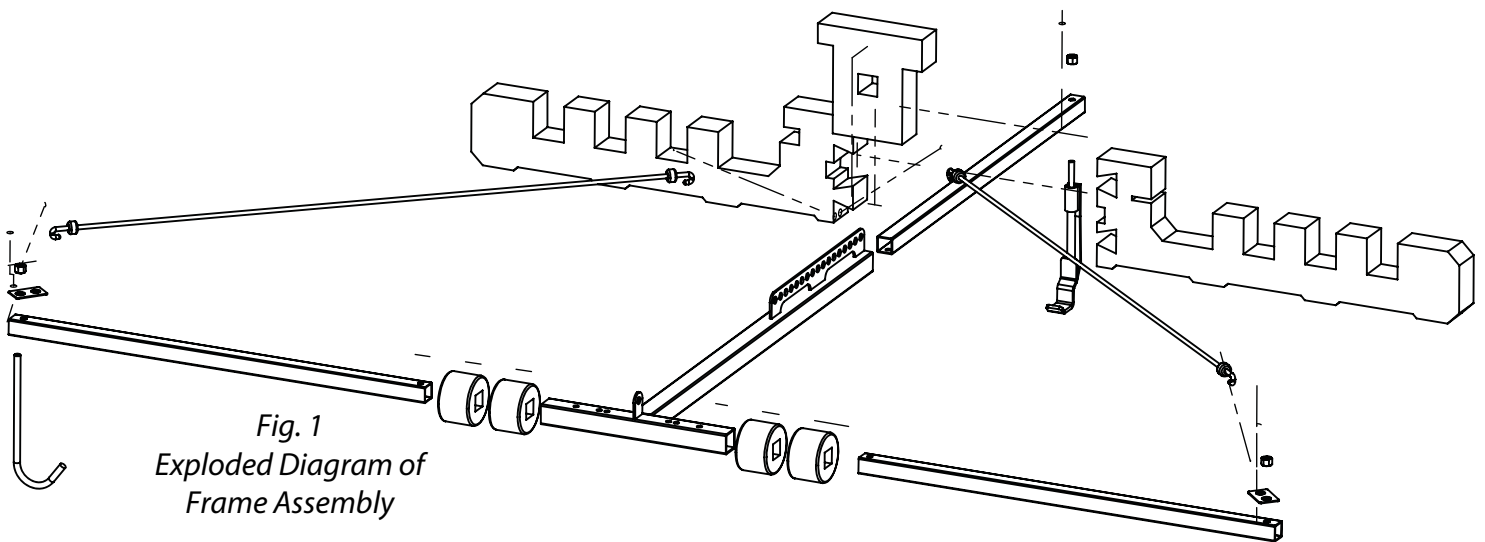

Fig. 1
- C. Slide the JK Foam Square Support (HAT-104) on the T-Shaped bar (HAT-100) over the lifting blade. There is a slit that allows you to do this. Pay close attention to the direction of the JK Foam Square (HAT-104) in Fig. 1, and orient it likewise.
- G. Assemble long foam supports (HAT-103) on the rear support arm (HAT-101) as shown in Fig. 1